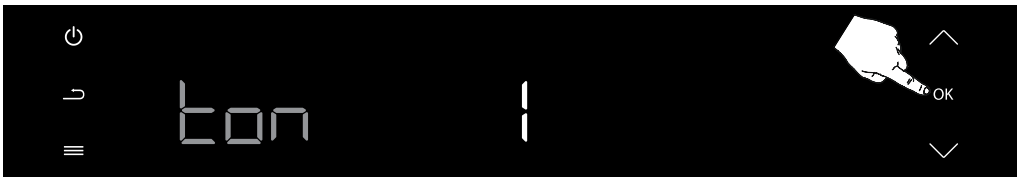

Figure 116
Press the confirmation key (OK) once to confirm the tone setting. (see figure 116)